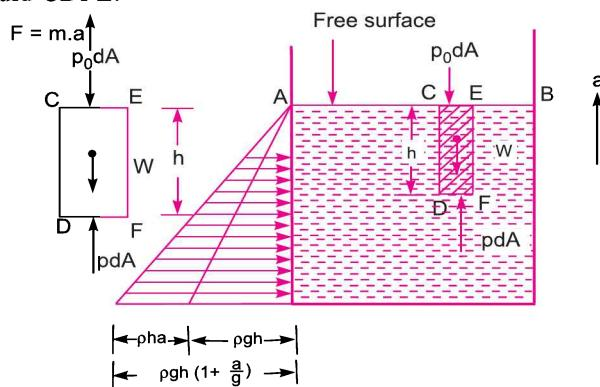

Fig. 3.49
**3.8.2 Liquid Container Subjected to Constant Vertical Acceleration.** Fig. 3.49 shows a tank containing a liquid and the tank is moving vertically upward with a constant acceleration. The liquid in the tank will be subjected to the same vertical acceleration. To obtain the expression for the pressure at any point in the liquid mass subjected to vertical upward acceleration, consider a vertical elementary prism of liquid  $CDFE$ .
Fig. 3.49 shows the variation of pressure for the liquid mass subjected to a constant vertical upward acceleration.